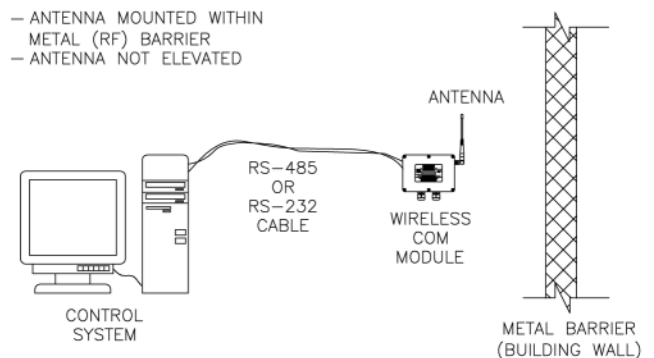

Figure 1
**Choosing a location:** (See Figure 1)